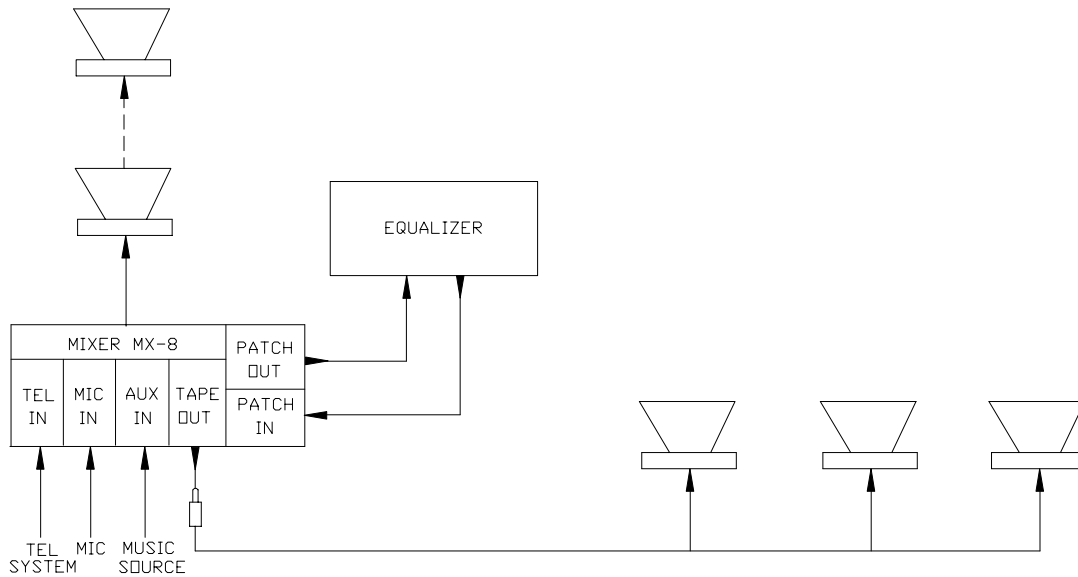

Figure 5: Connecting SA Series Self Amplified Speakers
13. SELF AMPLIFIED SPEAKERS (SEE FIGURE 5):